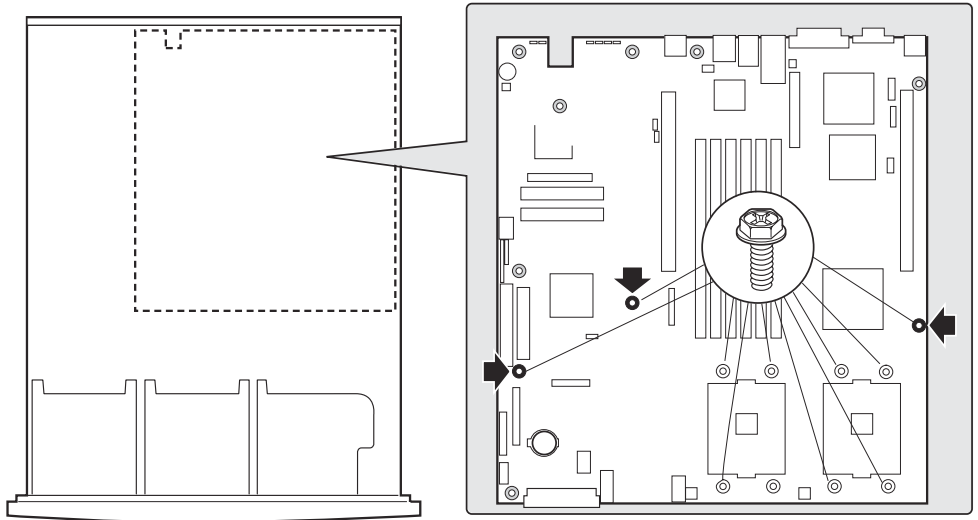

FIGURE 5-39 Location of the Mounting Screws
13. Remove the eight screws that secure the processor retention mechanisms and the three mounting screws that secure the server board to the chassis (see Figure 5-39).